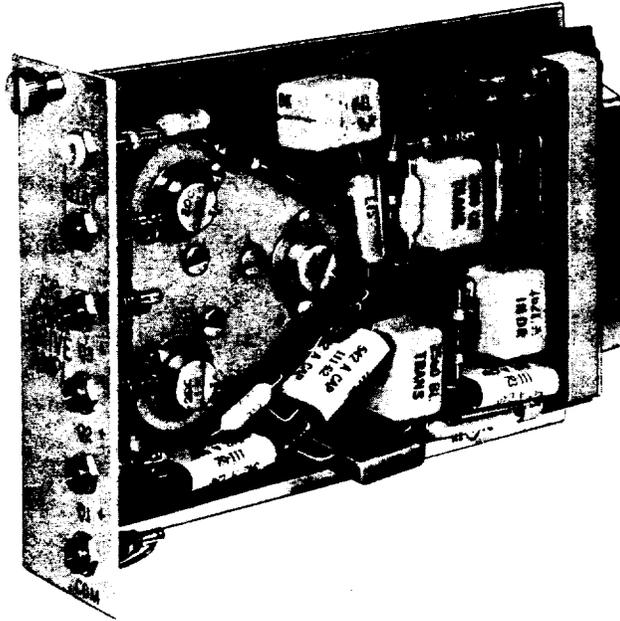

Fig. 4—Supergroup Drive Amplifier Module
4	Remove the 124-kHz drive amplifiers (Fig. 4), one at a time, and inspect the plug-in connections to the harmonic generator.
- 5 ♦Remove the 80-kHz drive amplifiers (Fig. 4), **one** at a time, and inspect the plug-in connections to the harmonic generator.